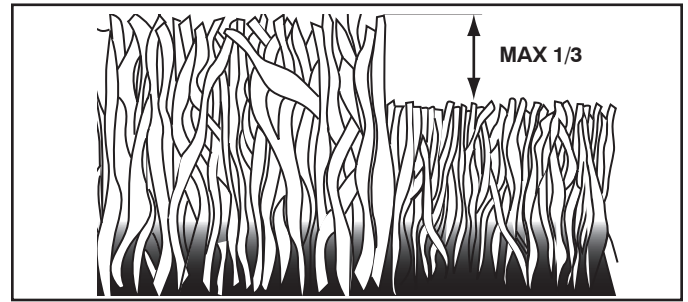

Fig. 15
- For best results, adjust the mower cutting height so that the mower cuts off only the top one-third of the grass blades (See Fig. 15). For extremely heavy mulching, reduce your width of cut on each pass and mow slowly.